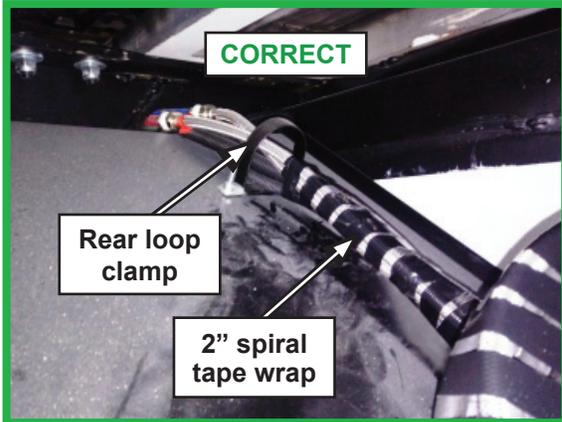

Figure 4
8. With the panel pivoted down, inspect the wire harness/plumbing bundle to determine whether it was correctly tape-wrapped and secured. See Figures 4 and 5 for examples of correct securement; see Figures 6 and 7 for examples of incorrect securement.